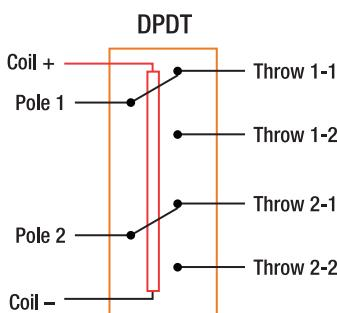

Figure 2-5. This DPDT relay has two poles, and each pole has two contacts (a double three-way switch).
- Double Pole, Double Throw (DPDT): This type of relay uses one coil to operate two independent DPDT switches at the same time (see Figure 2-5). This relay has eight total contacts and can be configured as an H-bridge circuit, which is discussed in Chapter 3 (for controlling the direction of a load).